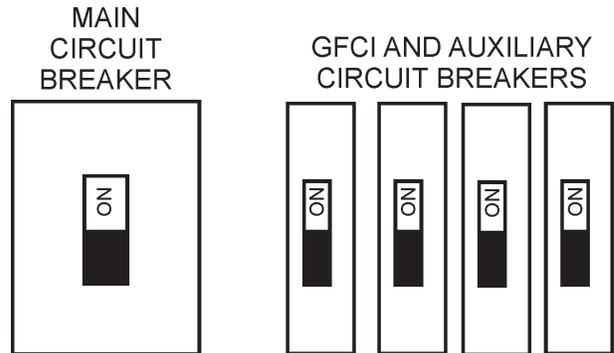

Figure 34. Main, GFCI, and Aux. Circuit Breakers (ON)
- Place the *main*, *GFCI*, and *aux.* circuit breakers in the **ON** position (Figure 34).